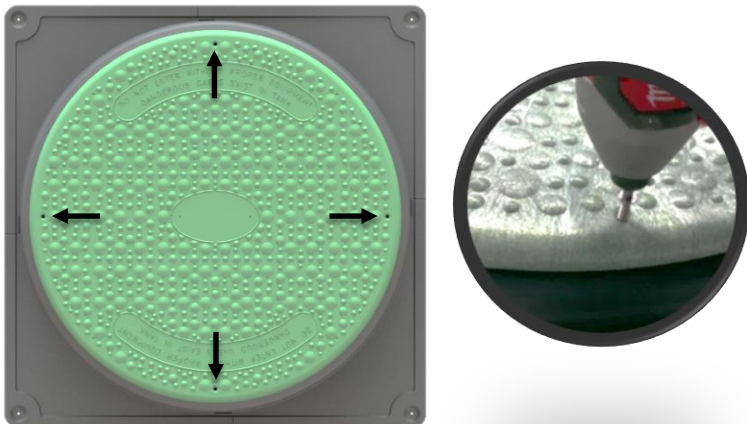

Figure 14: Cover installed
16.) **Always re-install four (4) cover security screws (riveted to underside of cover during shipping) and tighten (2 in-lbs.) with appropriate driver tool to secure riser cover to riser pipe (Fig.14)**